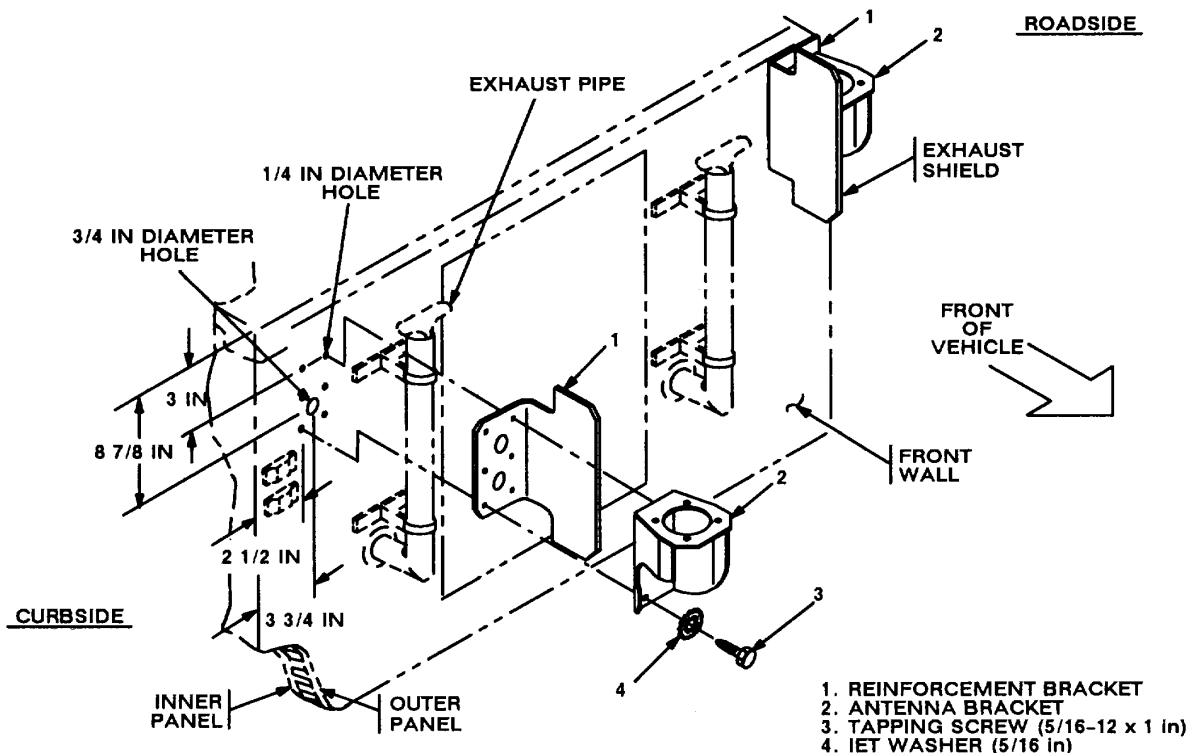

Figure 5-2 (1). Antenna Base Installation: Installing Antenna Bracket
d. Gasket (4).	Place on antenna bracket (5) and aline with mounting holes. See figure 5-2 (2).
e. Antenna base (1).	Place on top of gasket (4) and antenna bracket (5). Aline mounting holes.
f. Four cap screws (2), eight IET washers (3) and four nuts (7).	Install and secure to antenna base (1) and antenna bracket (5).	Tools: 9/16 in socket and 9/16 in wrench.
g. Ground strap (10), two IET washers (8) and hex-head tapping screw (9).	Install and secure to right bottom hole in antenna bracket (5), reinforcement bracket (6) and front wall.	Tools: 1/2 in socket.